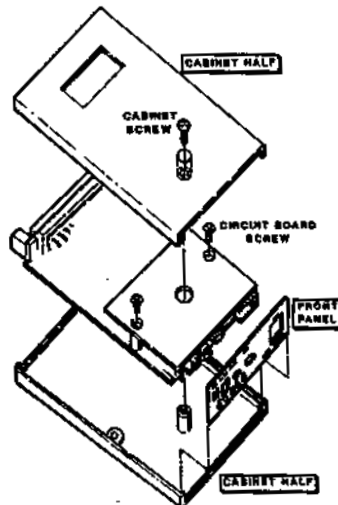

Figure 1-8
- () Refer to Figure 1-8 and remove the screw from the bottom of the unit. Then carefully remove the cabinet halves.
- () Refer again to Figure 1-8 and remove the two indicated screws that hold the circuit boards together.